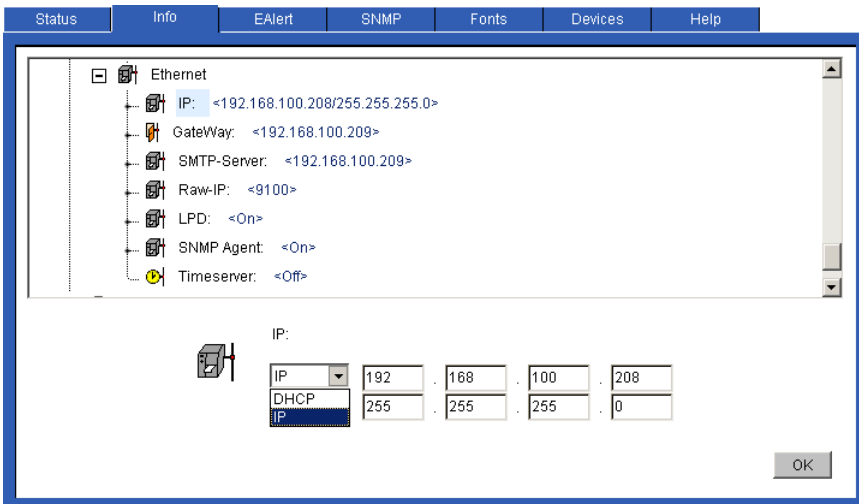

Fig. 3 Java Applet displaying the printer's Info tab under the Ethernet option using an Internet Browser.
7. In the example Fig. 3, the "Info" tab under the "Ethernet" option is displayed.